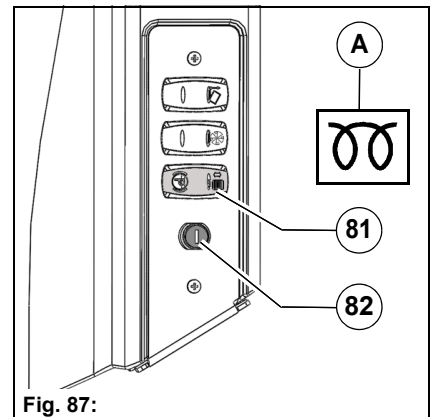

Fig. 87:
- Position 1: preheat the engine until the control light **Fig. 87-A** goes out.